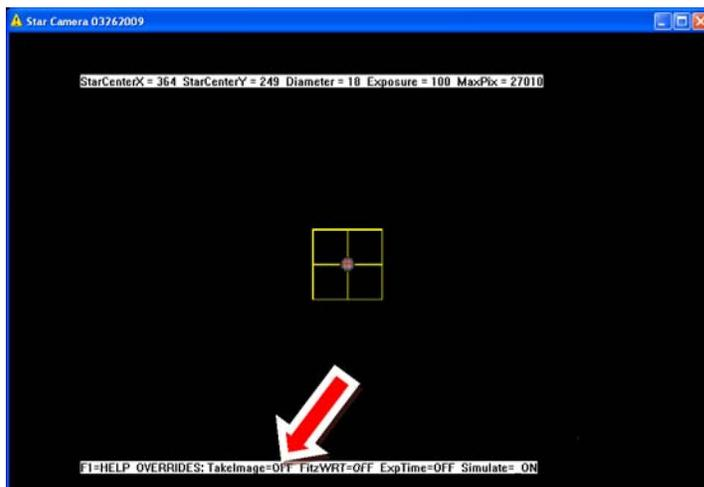

Figure 5-1: Star Camera Window
4. **Start the Star Camera software** – Go to the Camera computer and double click on the icon to start the software (shown on right). This should open up the star camera window (Figure 5-1).
Note: The “Take Images” override (F2) should NEVER be turned on during a Star Calibration or Star Assessment since this will desynchronize POP and the Camera Software and potentially cause the Star Calibration or Star Assessment results to be worthless! See arrow on Figure 5-1 for location of status bar.